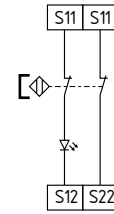

Fig. 10
**Dual-channel control of magnetic safety sensors to EN 60947-5-3 (see Fig. 10)**